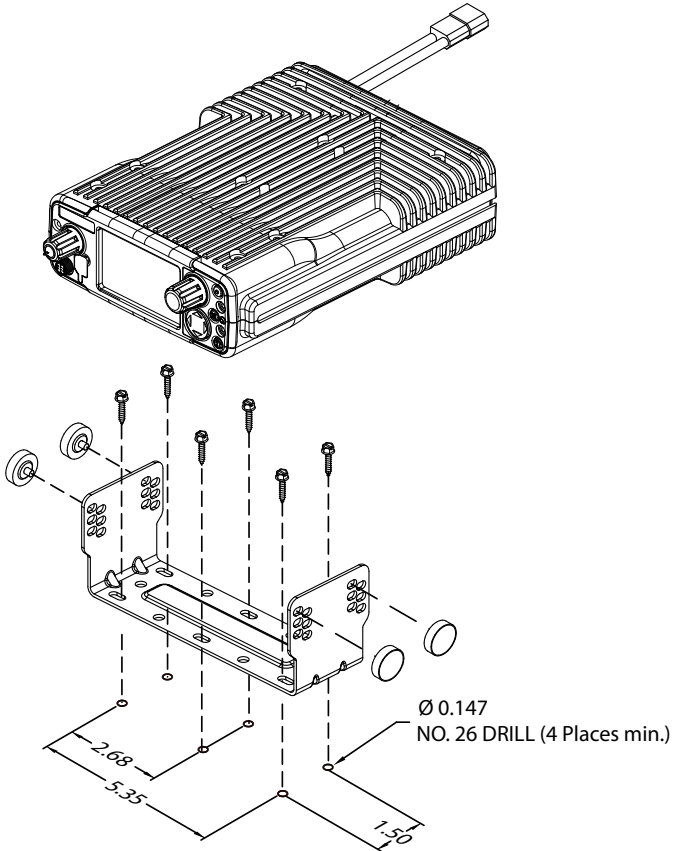

*Figure 3 - Speaker Wire Connection*
5. Connect the speakers to the accessory connector. (See figure 3)